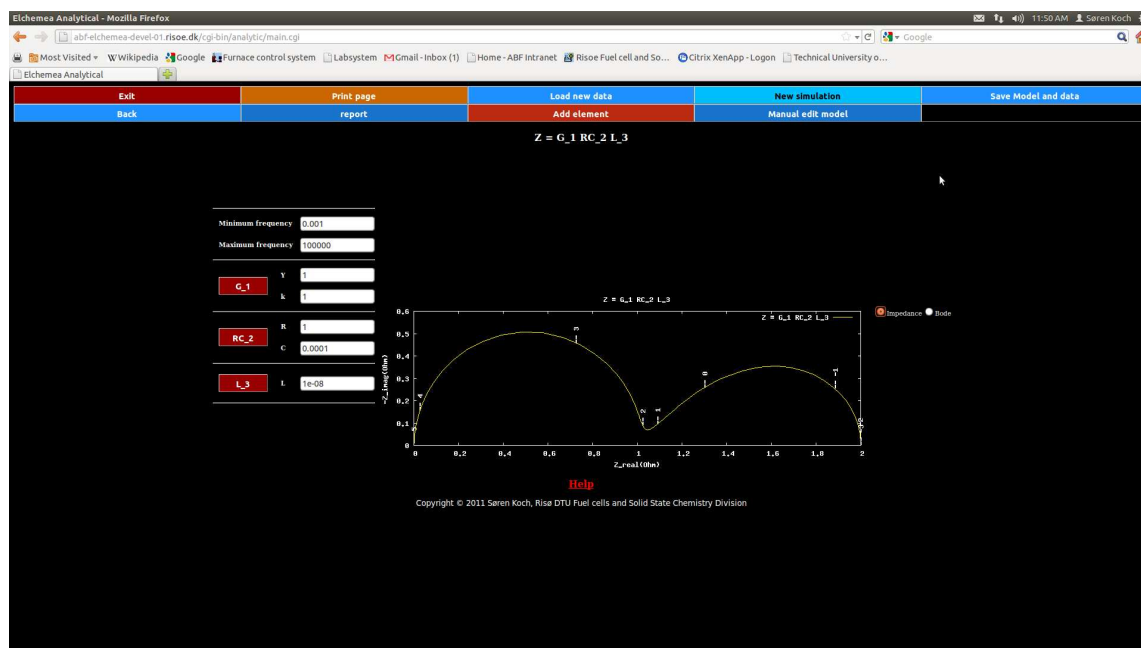
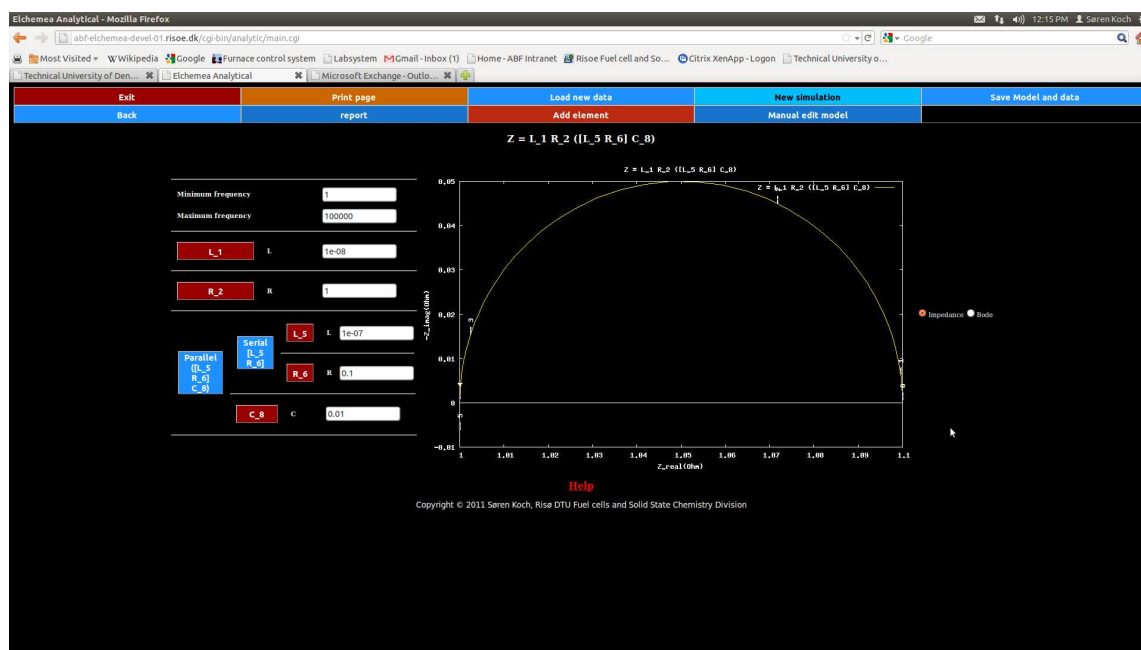

Figure 3.2: An example impedance simulation using simple series connection of three impedance elements.
Figure 3.3: An example impedance simulation using parallel and serial connections of discrete elements.
Figure 3.2 shows an example of a simple series connection of three impedance elements plotted in the impedance plane. A Gerisher element (G) a RC element (parallel connection of a resistor and a capacitor) and an inductor (L) viewed in the impedance plane.
If custom series and / or parallel connection elements are used, the model description on the left of the page looks slightly different than the one shown in figure 3.2. Figure 3.3 shows an example of how this may look. The way to read the complex models presented in this way is as follows:
If a model like the one in figure 3.3 is to be created, start a new simulation and follow the steps below:
15. The resulting model should now be identical to the one in figure 3.3.